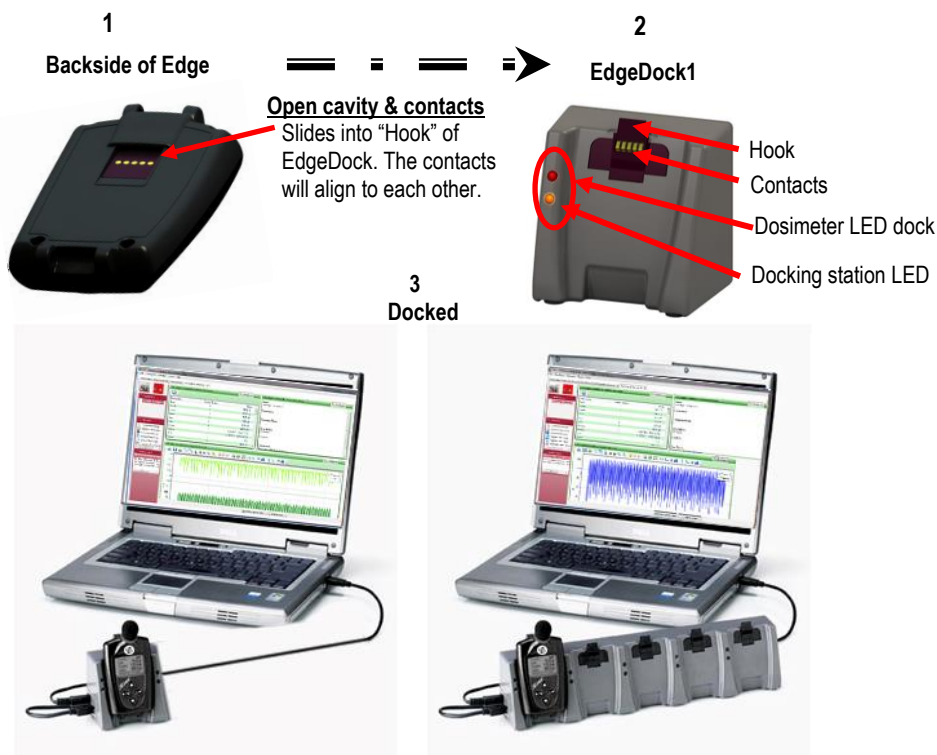

Figure 2-7: Docking the Edge with a single and 5-bay docks
2. Slide the Edge (1) downward onto the **Hook** of the EdgeDock (see Figure 2-7 below).